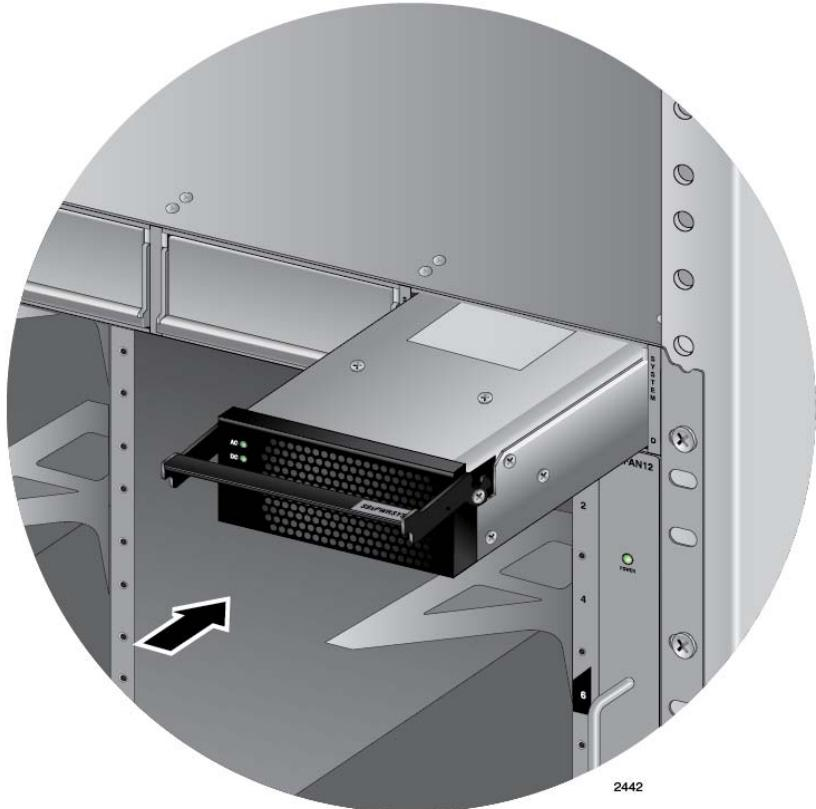

Figure 48. Inserting the AT-SBxPWRSYS1 Power Supply
6. Align and insert the AT-SBxPWRSYS1 Power Supply into the power supply slot. Figure 48 shows the power supply installed in slot D.